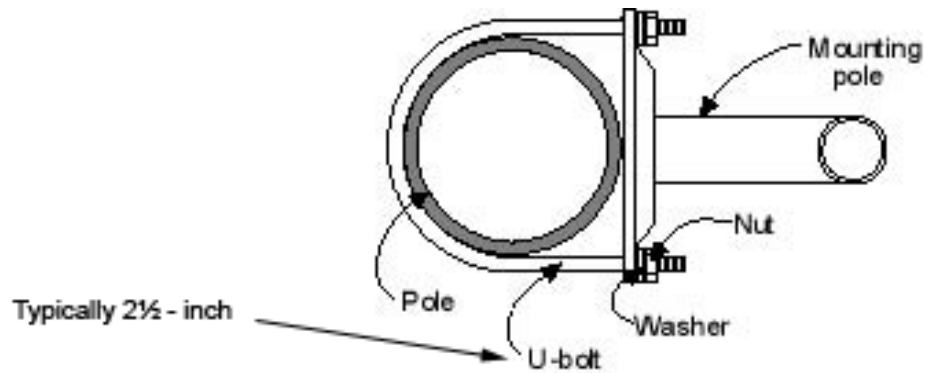

Figure 4-4 Mounting Pole Installed on Pole or Antenna Mast
- 2) Insert the U-bolts around the mast (Figure 4-4) and through the holes in the mounting pole. Install a washer and nut to each side of the threaded U-bolt and hand tighten. Repeat this step for the second U-bolt.